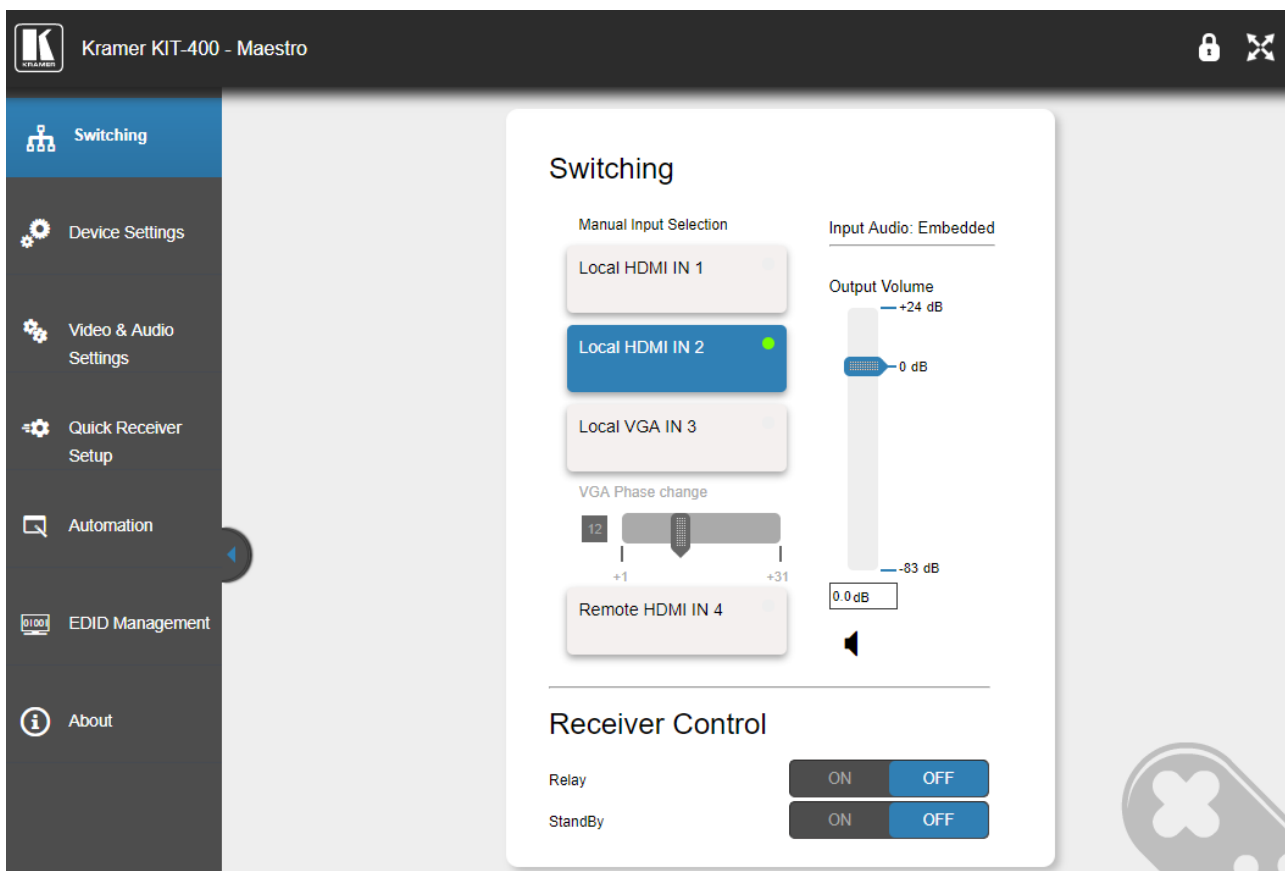

Figure 17: Switching Page with Navigation List on Left
A green dot, on an input button, indicates that it is connected to an active source, as shown in the example in Figure 17, for HDMI IN 2.
1. In the Navigation pane, click **Switching**. The Switching page appears (see Figure 17).
1. In the Navigation pane, click **Switching**. The Switching page appears (Figure 17).